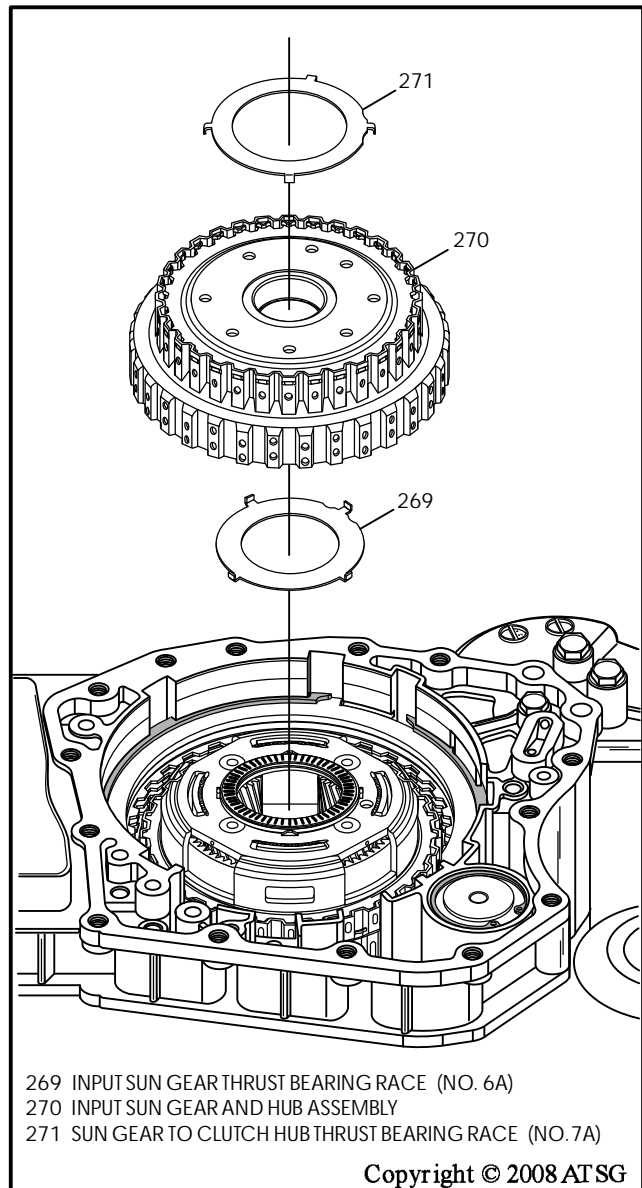

Figure 54
59. Remove the number 7A thrust bearing race and the input sun gear and hub assembly, as shown in Figure 54.
60. Remove the number 6A thrust bearing race, as shown in Figure 54.